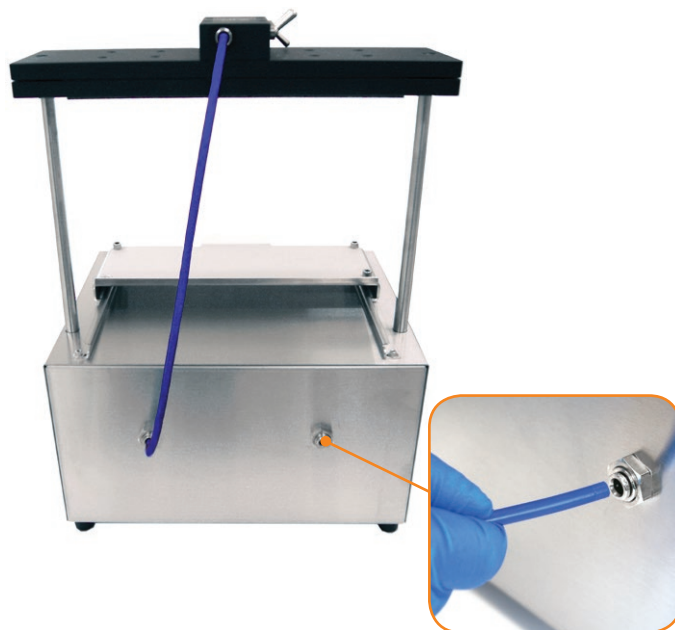

Figure 1. Connect the gas line to the right port at the back of the unit.
The unit will already have the tubing attached in the back as shown in Figure 1.
3. Using the supplied gas supply installation kit (PPM-GA), plumb the back of the unit to the gas supply (see Figure 1). Refer to the Gas Source section above for gas requirements.